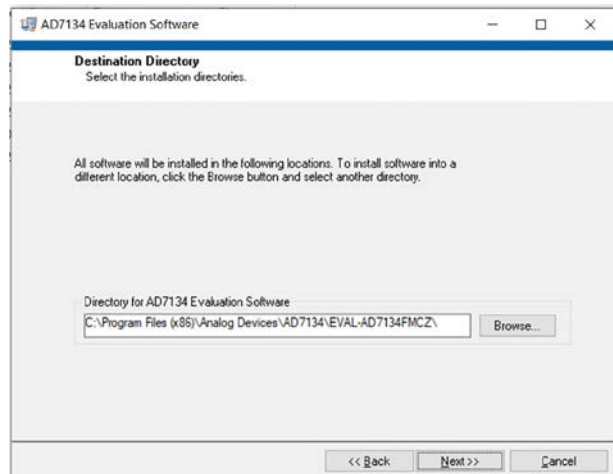

Figure 6. Setting Installation Destination Directories
3. When the installer initializes, the **Destination Directory** dialog box appears (see Figure 6). Enter the desired path for installation and then click **Next**. The default path is **C:\Program Files (x86)\Analog Devices**.